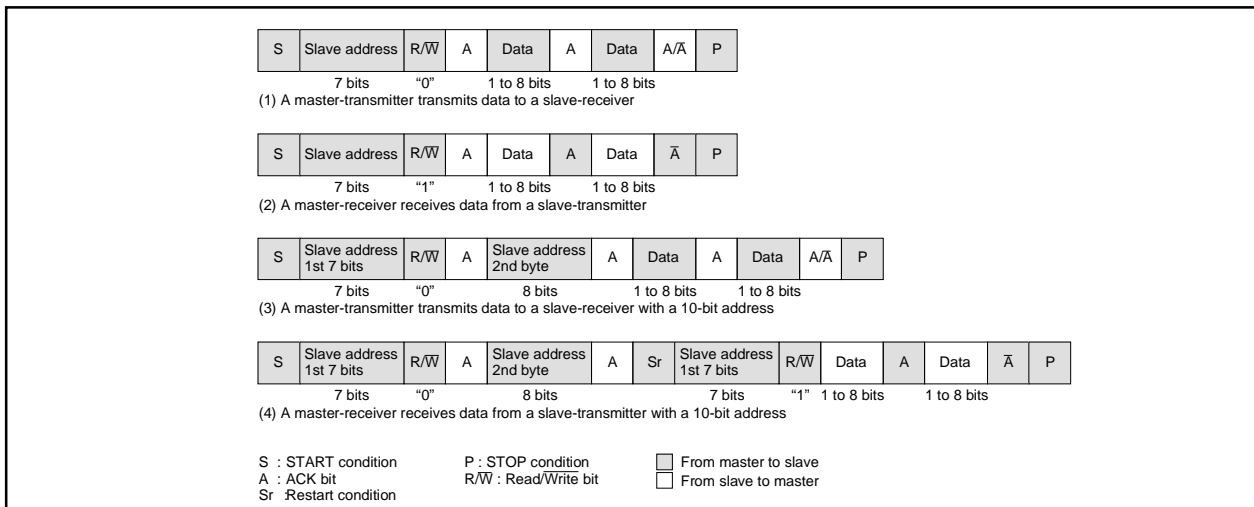

Fig. 2.11.41 Address data communication format
To meet the 7-bit addressing format, set the 10BIT SAD bit of the I²Ci control register to "0." The first 7-bit address data transmitted from the master is compared with the high-order 7-bit slave address stored in the I²Ci address register. At the time of this comparison, address comparison of the RBW bit of the I²Ci address register is not made. For the data transmission format when the 7-bit addressing format is selected, refer to Figure 2.11.41, (1) and (2).
When the first-byte address data matches the slave address, the AAS bit of the I²Ci status register is set to "1." After the second-byte address data is stored into the I²Ci data shift register, make an address comparison between the second-byte data and the slave address by software. When the address data of the 2nd bytes matches the slave address, set the RBW bit of the I²Ci address register to "1" by software. This processing can match the 7-bit slave address and R \bar{W} data, which are received after a RESTART condition is detected, with the value of the I²Ci address register. For the data transmission format when the 10-bit addressing format is selected, refer to Figure 2.11.41, (3) and (4).
(11) Example of Master Transmission